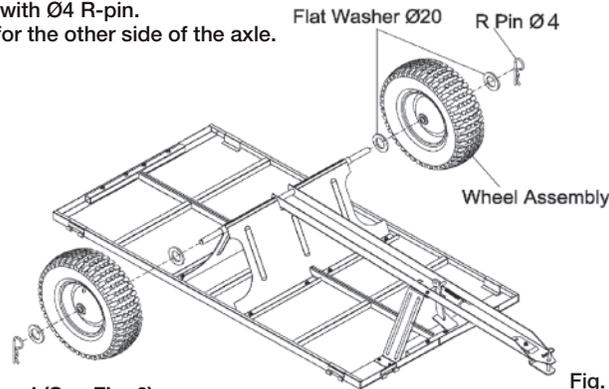

Fig. 5
**STEP 5: Attach the Wheels (See Fig. 5)**